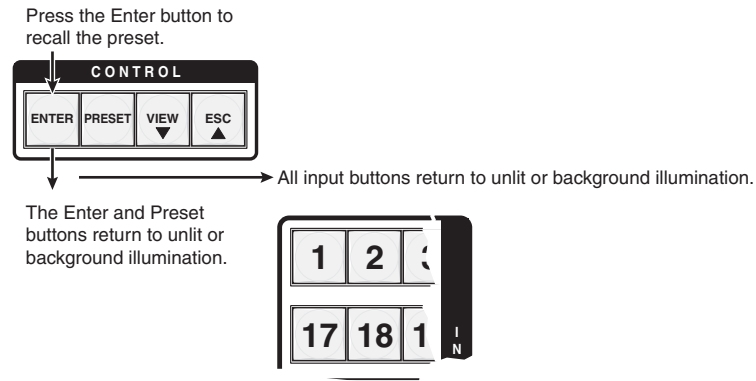

Figure 3-47 — Press the Enter button
- Press and release the Enter button (figure 3-47). The configuration stored in selected memory location is now the current configuration and can be viewed in the *View-Only* mode (see example 4).